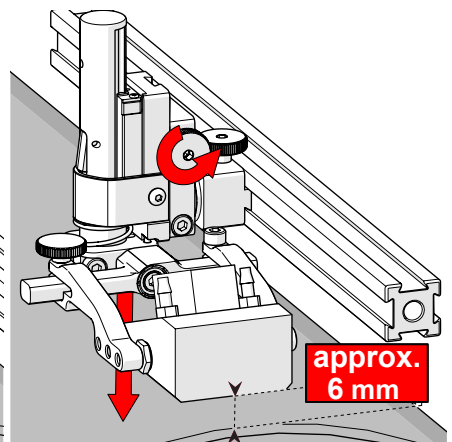

Fig. 48 - Lower toward scan surface
2. Loosen the vertical adjustment knob and slide the probe holder down until the wedge is approximately 6 mm ($\frac{1}{4}$ in) above inspection surface (Fig. 48).
3. Tighten the vertical adjustment knob (Fig. 48).